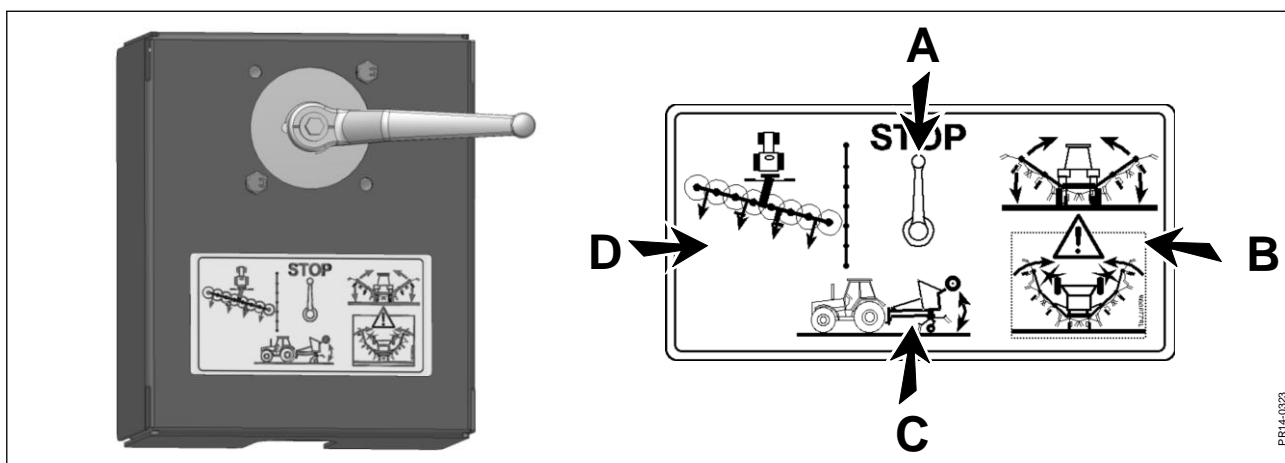

Fig. 5-2
Fig. 5-2 The change-over valve is switched to position “folding/unfolding of side arms” (B). The side arms can now be swivelled by means of the tractor’s hydraulic outlet. The transport axle must be swivelled completely down to avoid machine damage.